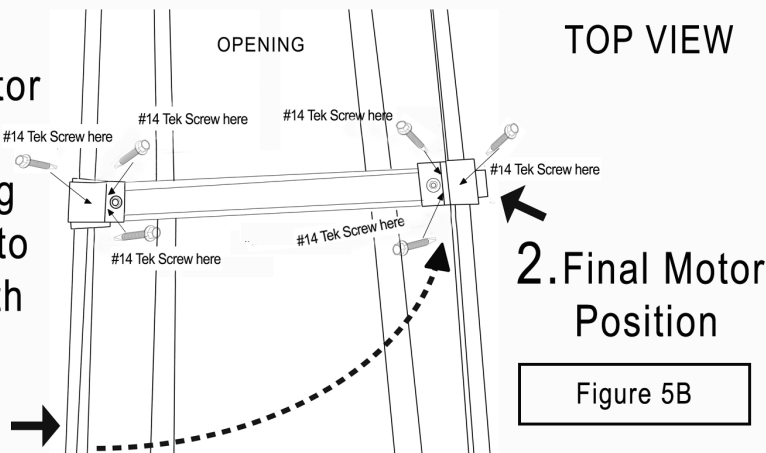

Figure 5B
The motor should be mounted between 20 and 24 inches from the back of the attic opening and mounted so it hangs below the rail (See figure 5). (From the end opposite where the stairs will hinge). Hang the motor bracket with the motor hanging on one of the rails and swing it horizontal to catch the other rail. (See figure 5B) Square the motor to the opening and fasten with (6) #14 Tek screws. Tighten the vertically mounted bolts on the motor bracket. (In some cases you may have to mount the motor lower than the handrails.) **(Never attempt to lift the stairs with the motor until the motor is secured to the handrails as serious injury could occur)**